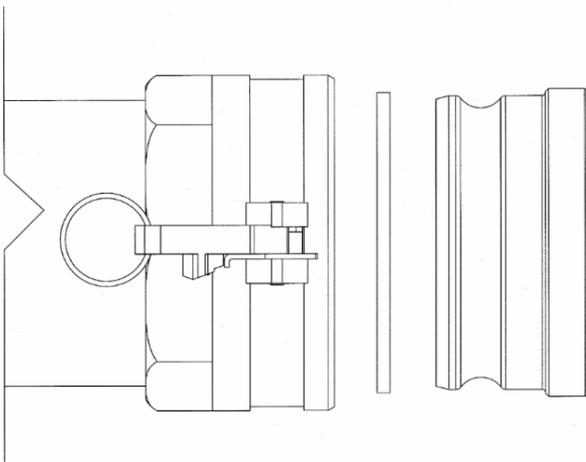

Fig. 6
1. Thoroughly wash the Load Diverter with water, checking housing exterior and interior. Remove the gasket in cam fitting [Figure 6]. Be sure to rinse gasket and gasket seat.